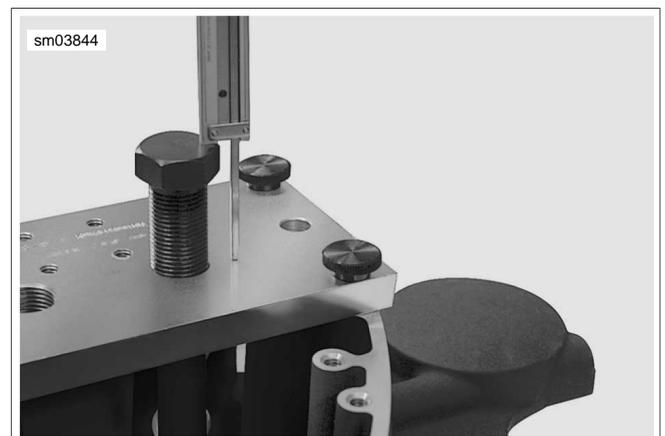

Figure 3-121. Measure from Top of Forcing Screw to Support Plate
10. See Figure 3-121. Using a dial caliper, measure from head (top) of installer forcing screw to support plate. Record this measurement for use in installing second needle bearing.